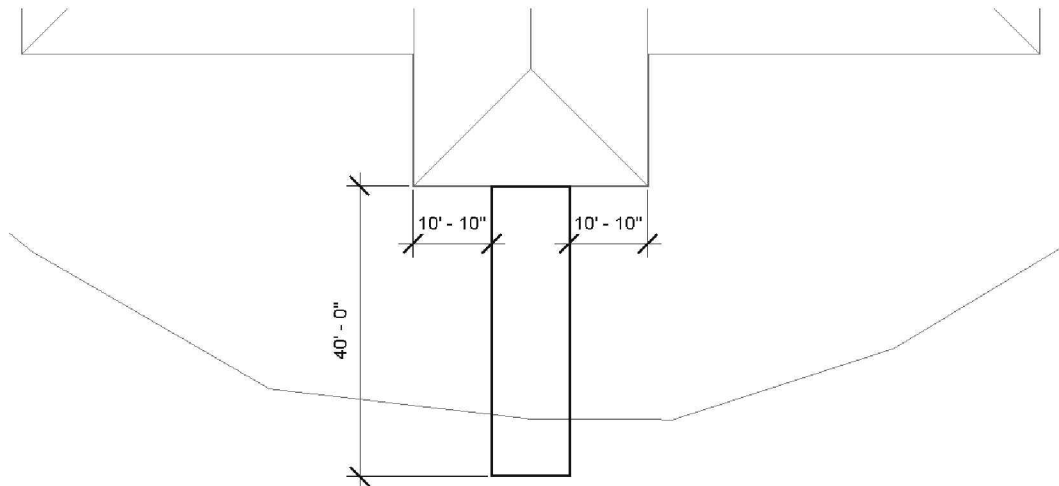

Figure 13-1.9 Partial site plan – closed sketch lines for subregion
14. Select **Massing & Site → Modify Site → Subregion** tool and sketch the lines for the sidewalk (Figure 13-1.9).